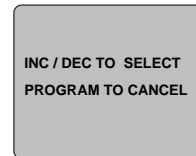

Figure 58
- e) Once the Program key has been pressed in the Arc Advance time panel, the following screen will appear (Figure 58).